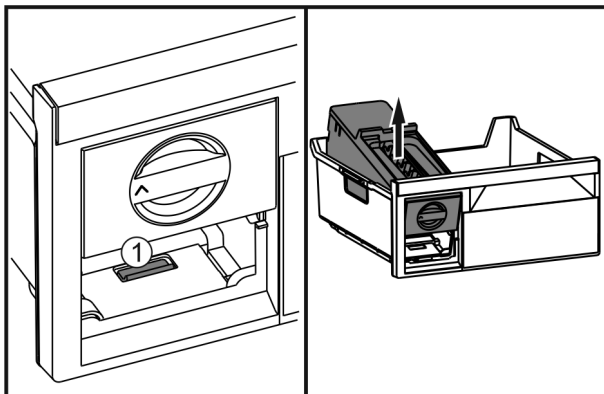

Fig. 38
- ▶ Press the lug Fig. 38 (1), lift up the EasyTwist-Ice at the back and take it out of the freezer drawer.